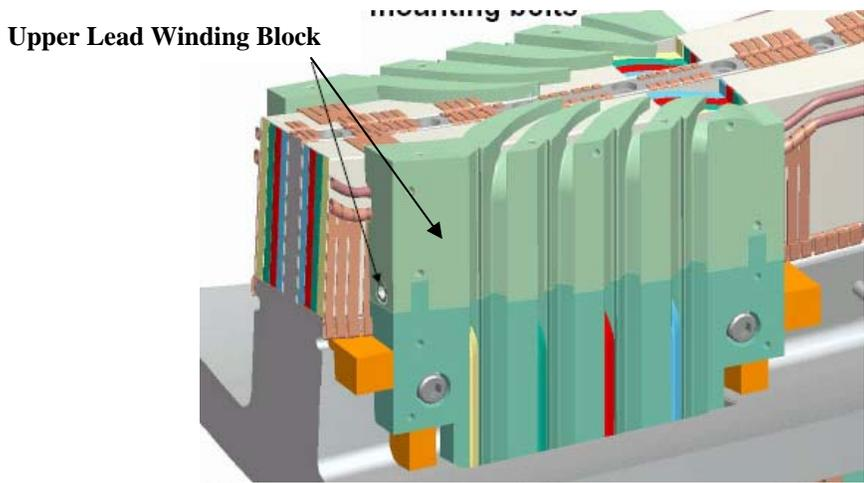

Figure 38- Upper Lead Winding Block
- 6.38.1 Mount the upper lead winding blocks to the MCWF for both sides “A” and “B” and secure in position with appropriate hardware. [Figure 38- Upper Lead Winding Block] Install glass cloth between G-11 fillers and fill all voids with glass tape or roving.